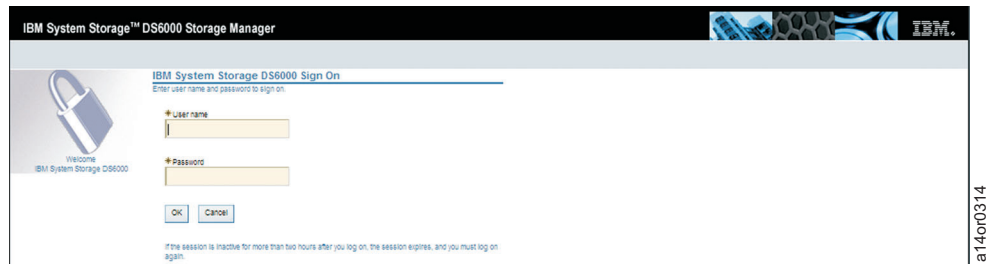

Figure 3-87. DS6000 GUI Login Username and Password Screen
- From the Main Menu, select **Browser Functions > DS6000 Functions > Launch GUI**. You see the browser window in Figure 3-87 on page 3-69.